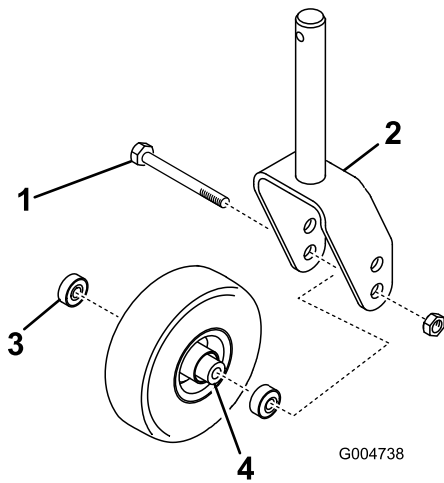
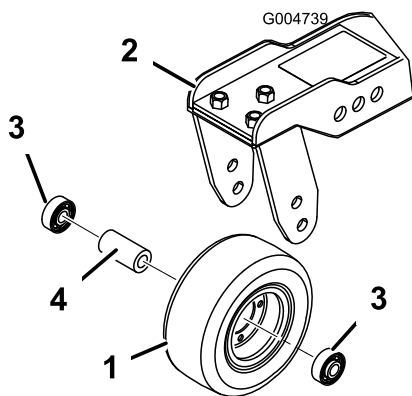

Figure 84
Figure 85
1. Remove the locknut from the bolt holding the castor wheel assembly between the castor fork (Figure 84) or the castor pivot arm (Figure 85). Grasp the castor wheel and slide the bolt out of the fork or pivot arm.
2. Remove the bearing from the wheel hub and allow the bearing spacer to fall out (Figure 84 and Figure 85). Remove the bearing from the opposite side of the wheel hub.